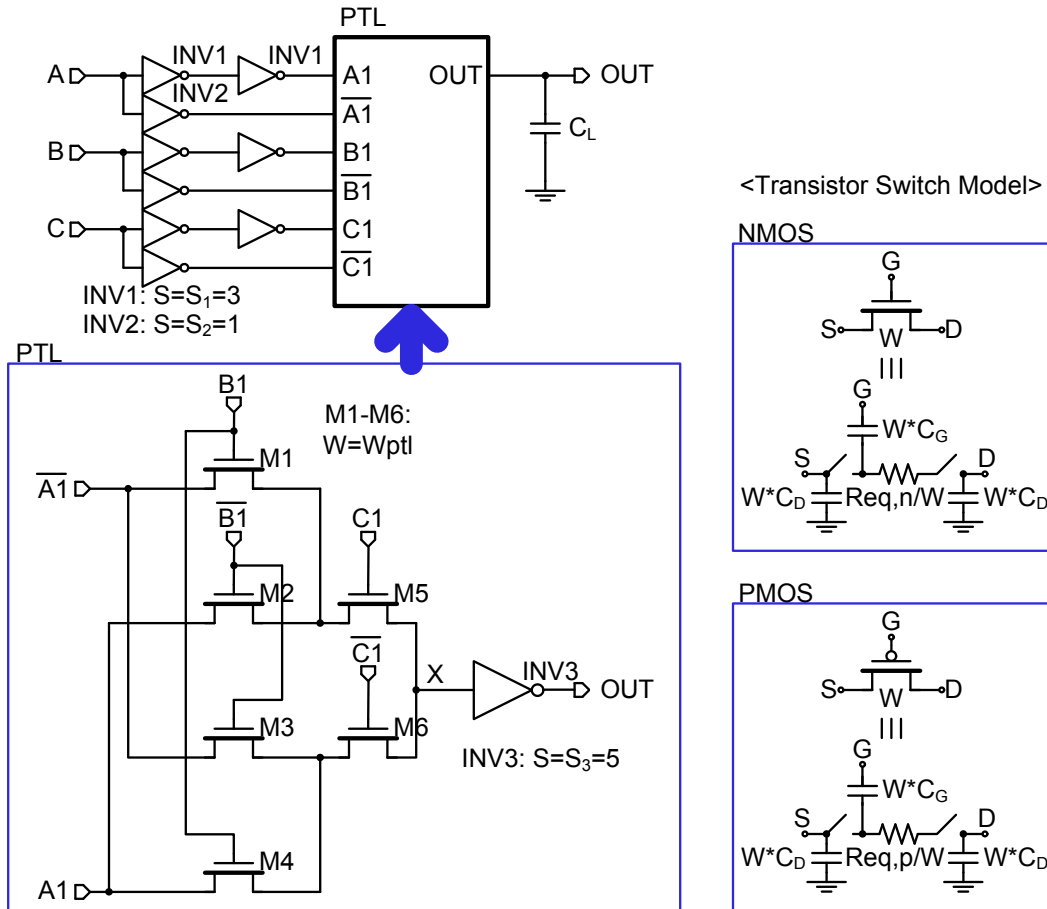

Fig.2 Pass Transistor Logic (PTL)
Consider the pass-transistor logic network of Fig. 2. The following (transistor) parameters are given: $V_{TN}=|V_{TP}|=V_T=0.3V$ and $V_{DD}=1.2V$. You may ignore body effect. $C_L = 20fF$. L of all transistors equals $0.1\mu m$. The equivalent model of the NMOS and PMOS transistors is given in the Figure as well. The model parameters can assumed to be constant and are NOT a function of biasing conditions. The nominal values for the parameters are given as: $Req_n=12k\Omega/\square$ and $Req_p=24k\Omega/\square$ (where the \square denotes the W/L ratio); and $C_G=2fF/\mu m$, $C_D=1fF/\mu m$ (expressed as a function of the transistor width).
(a) (1 pts) What is function OUT of the circuit of Fig.2 as a function of the A, B, and C inputs?
- (b) **(4 pts)** Assume that the critical path of the circuit of Fig.2 is from input A to OUT. For the sake of simplicity, **we decided to make all the pass-transistors (M1-M6) equal (size: W_{ptl})**. We now want to size these transistors so that the delay from A to OUT for a step input from 0 to V_{DD} is minimized. Draw a **CLEAR** diagram of the critical path of the circuit with the related capacitors annotated, and provide an expression for the value of each capacitor and resistor in your diagram.